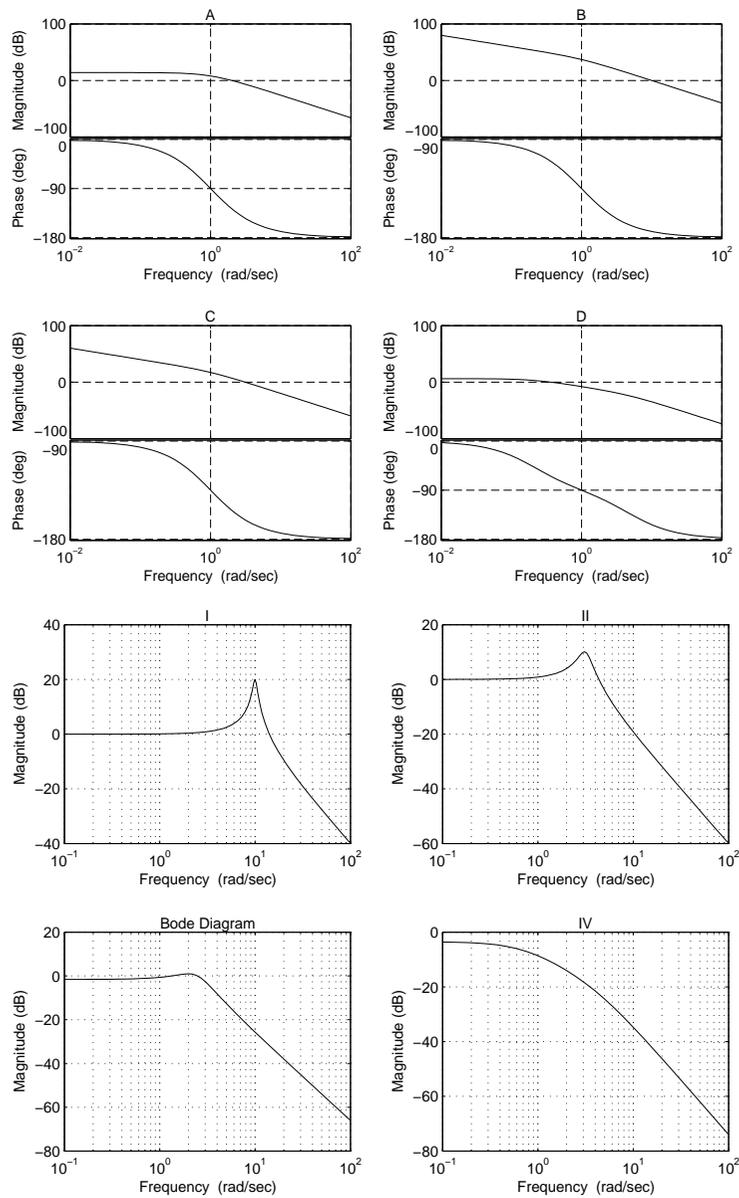

Figure 5.17a. Upper:  $G_O(i\omega)$ . Lower:  $|G_C(i\omega)|$ .
- 5.17 The upper figure in Figure 5.17a shows, in four different cases, the Bode diagram for the loop gain
and the lower figure in Figure 5.17a shows the amplitude curve,  $|G_C(i\omega)|$ , for the transfer function of the closed loop system
in the corresponding four cases. Combine the diagrams in Figure 5.17a.